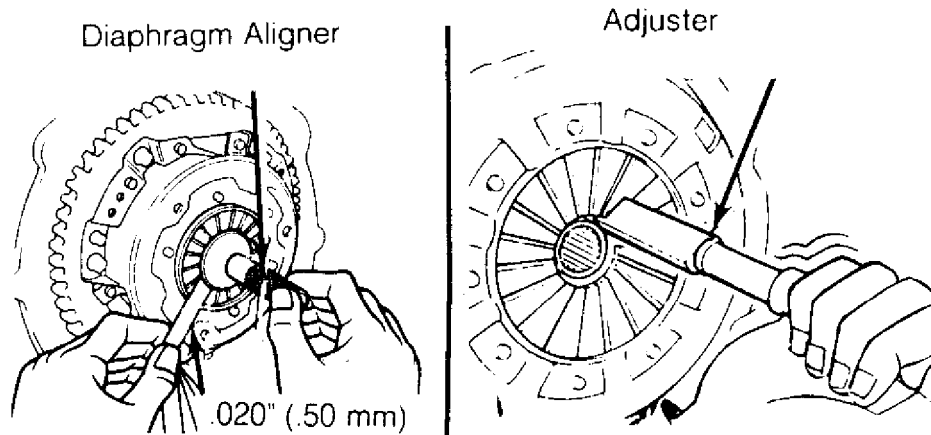

Fig. 2: Diaphragm Spring Tip Alignment Check
2) Use feeler gauge and Diaphragm Aligner (09302-20021) to measure gap between spring tips and tool. If gap exceeds .020" (.50 mm), use Adjuster (09301-00012) to align springs. See Fig. 2.